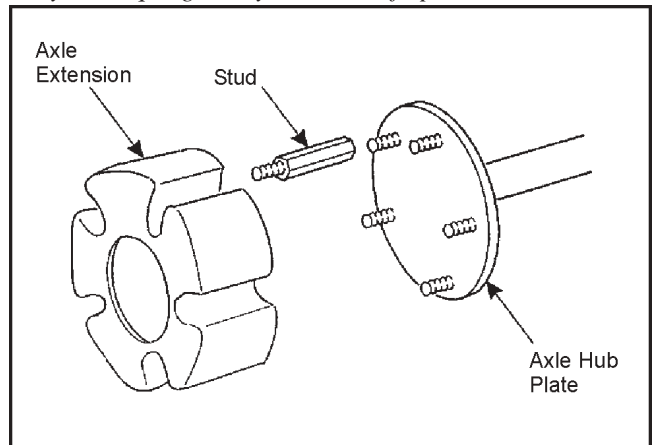

Figure 11-3. Installing the Axle Extensions
5. Install the extension studs on all of the vehicle wheel studs and tighten securely with a 5/8" socket. See Fig. 11-3.